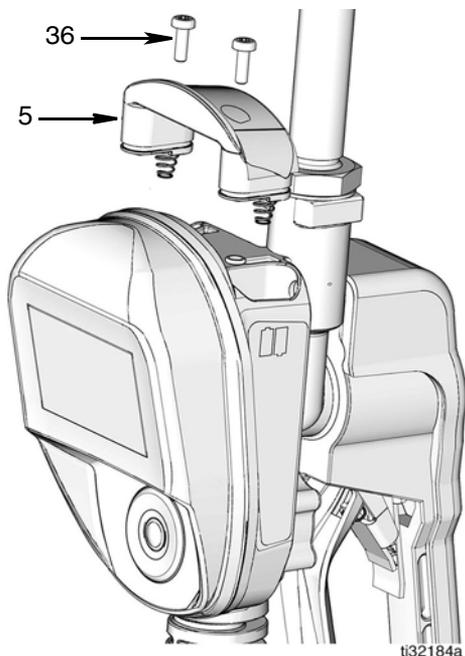

FIG. 3
5. Replace cover (5) and screws (36). Tighten screws hand tight. Do not over-tighten screws(FIG. 3).